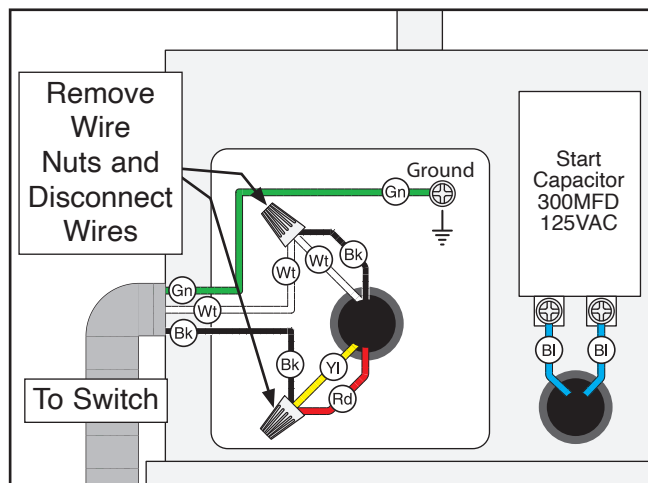

Figure 7. Inside motor junction box (motor pre-wired to 120V).
3. Open motor junction box, remove two wire nuts indicated in **Figure 7**, then disconnect wires.